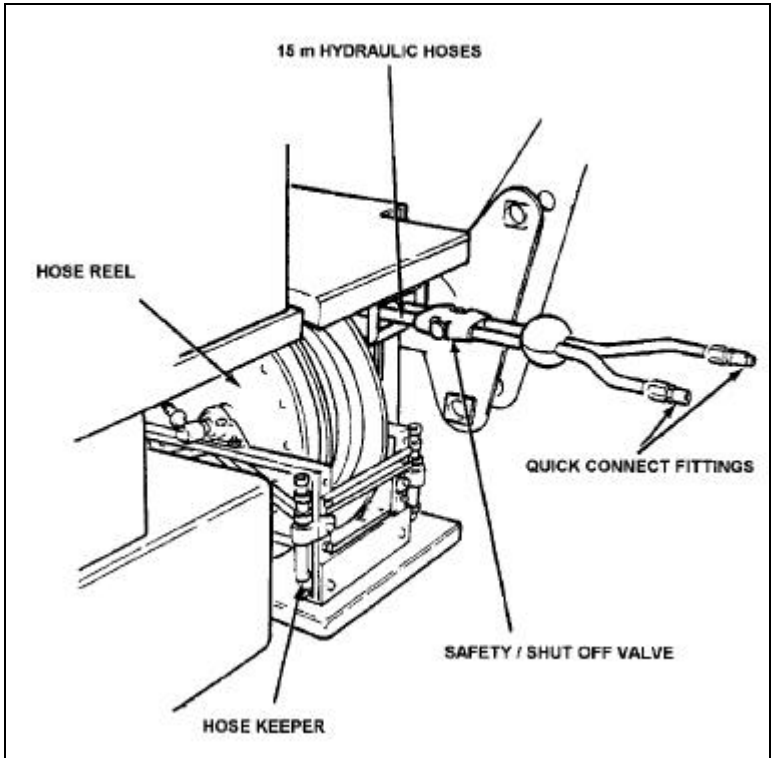

Fig 6-2-19 Hose Reel Components
22. Connect a hydraulic tool to the hose reel (Fig 6-2-19) as follows: